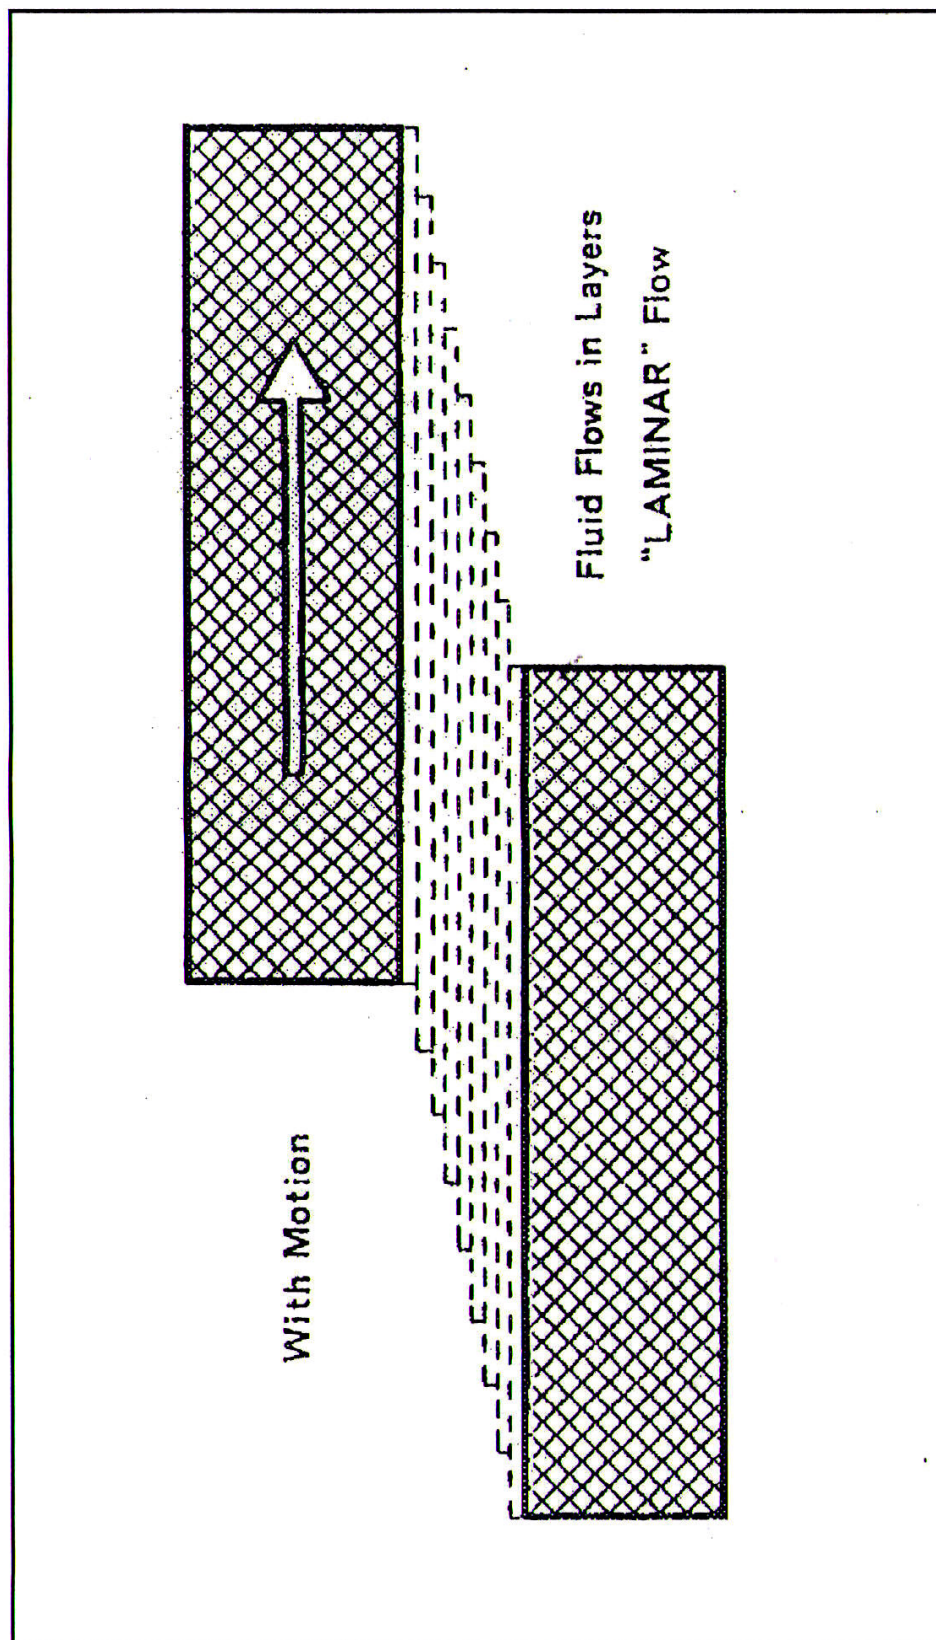

Figure 5-4 Laminar Action
5.1.2.1 Laminar Action - As shown in Figure 5-4, when the two surfaces are separated by the fluid film and relative motion occurs, the lubricant separates or shears in layers. With this laminar action, fluid friction is the result of the fluid layers moving against each other and not the two surfaces.